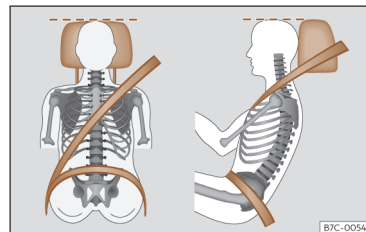

Fig. 17 Correct belt web and headrest positions
your head and under no circumstances below eye level¹⁾. Keep the back of your neck as close as possible to the headrest >>> **Fig. 17.**
- Adjust the seat lengthwise so that you can fully step on the pedals with your knees slightly bent and there is a distance between the knee area and the instrument panel of at least 10 cm (4 inches) >>> **Fig. 17.**